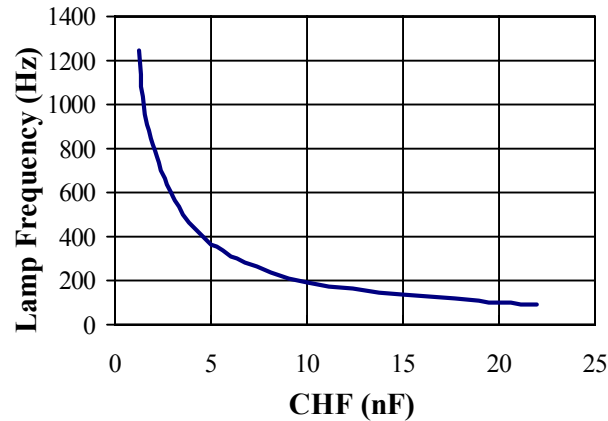

Figure 1: Typical Lamp Frequency vs. CLF Capacitor
Selecting the appropriate value of CHF capacitor will specify the inductor switching frequency (HF) and the lamp frequency (LF) of the D365 EL driver. A divider circuit in the internal oscillator circuitry of the D365A divides the inductor switching frequency by 72 to get the lamp frequency ($LF = HF/72$). Lamp frequencies of 200 – 500 Hz are typically used for longer EL lamp life. Figure 1 graphically represents the effect of CHF capacitor value on the lamp frequency oscillator at $V_+ = 3.3V$. In this example at $V_+ = 3.3V$, $LF = 2000 \text{ nF-Hz/CHF}$.